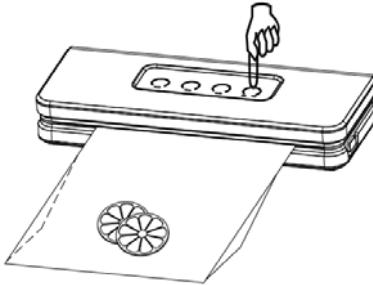

Figure 3
6. Press the Food Button to select either Dry or Wet setting to suit your needs (**as shown in Figure 3**);